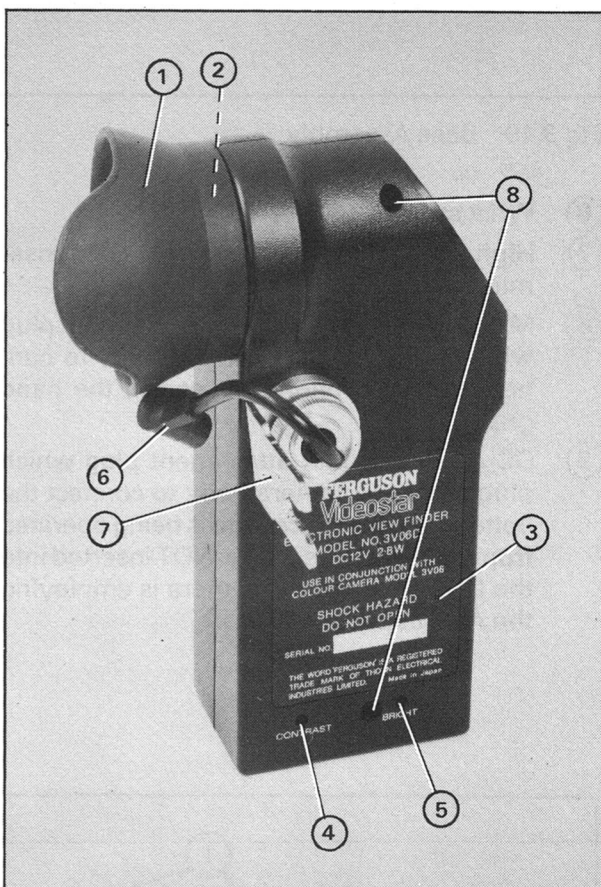

Fig 3.23 Electronic Viewfinder
- (1) Remove, by pulling, the visor ① in Figure 3.23
NOTE When refitting the visor, position the rim of the visor as shown in Figure 3.23
- (2) Remove the two screws ③ (Fig 3.23)
- (3) Unscrew the collar ② (Fig 3.23), by turning in the anticlockwise direction, and remove